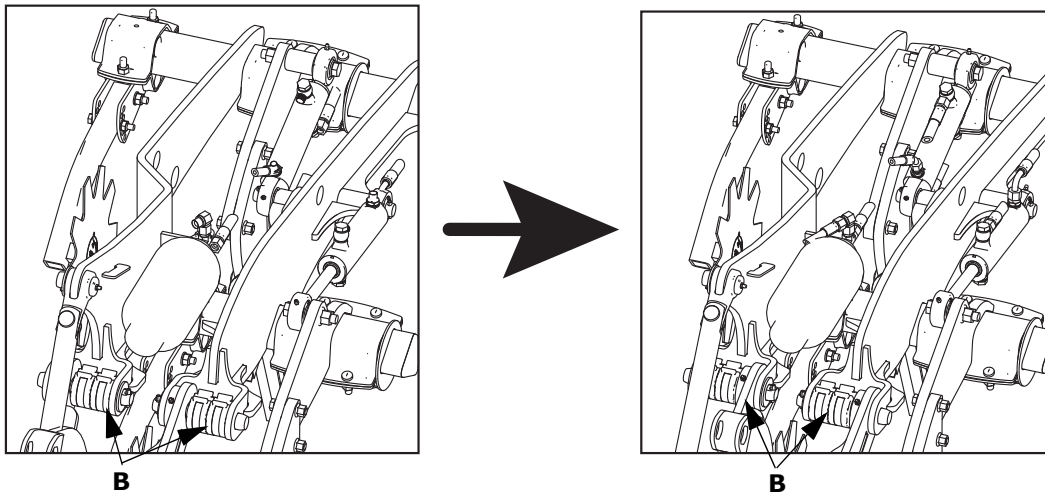

Figure 1.21 From drilling grain to drilling oilseed
- 2 Remove the spacer (B) from the front tool ("Figure 1.21").
- 4 Fit the spacer (B) to the other side of the bolts.